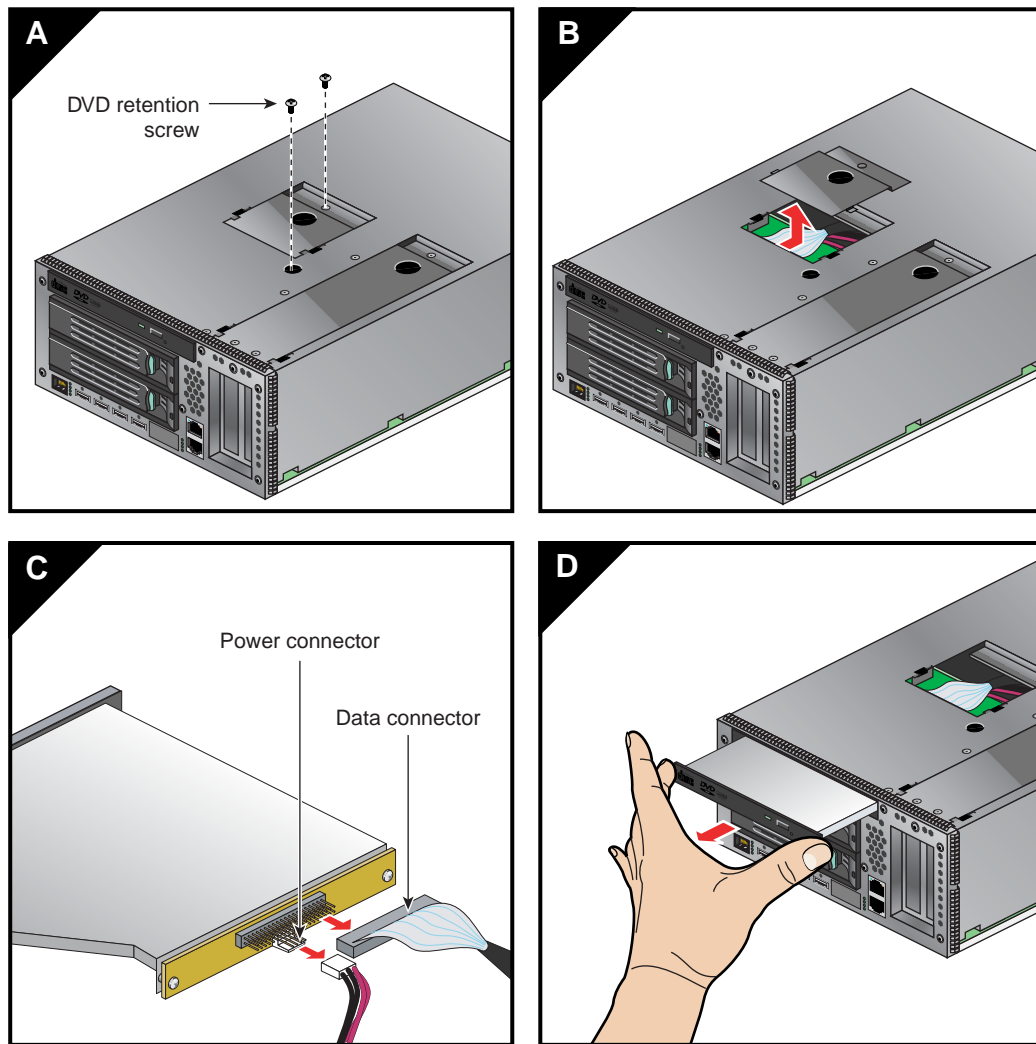

Figure 6-14 DVD Removal from IA Blade
3. After removing the IA blade from the IRU chassis, place it on a stable flat surface with the left side facing upward (see Figure 6-14).
4. Use a Phillips type screwdriver to remove the DVD access panel screw, (see Figure 6-14).